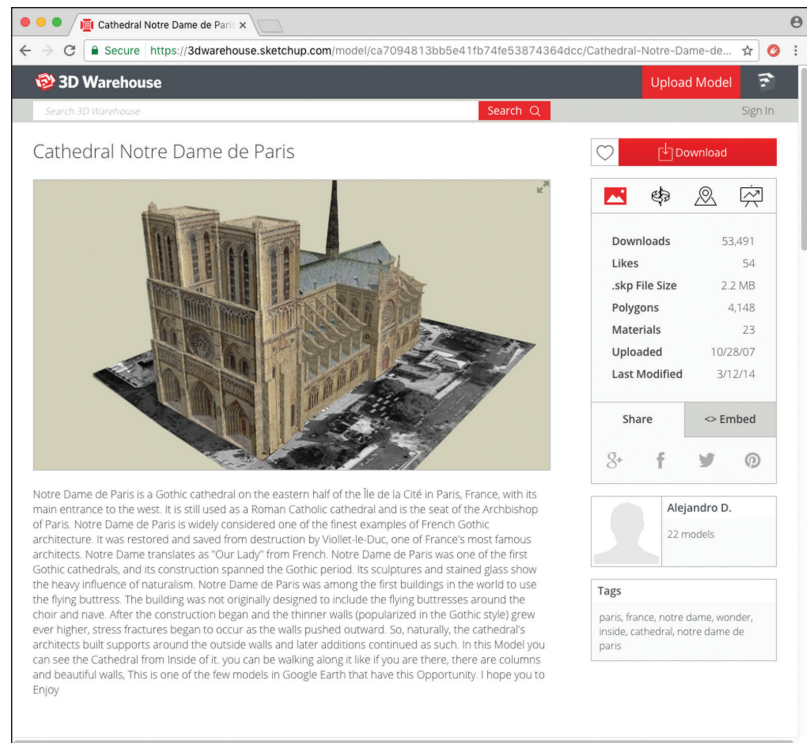

FIGURE 15.5 Downloading a model from the 3D Warehouse
1. Open your web browser and go to <https://3dwarehouse.sketchup.com> to access the 3D Warehouse. Type Cathedral Notre Dame de Paris in the search bar and click the Search button. Select the Cathedral Notre Dame de Paris model by Alejandro Diaz, which is the top result as of the date of this book's publication (see Figure 15.5). Click the Download Model button, select SketchUp 2017 (.skp) from the menu that appears, and save it to your downloads folder.